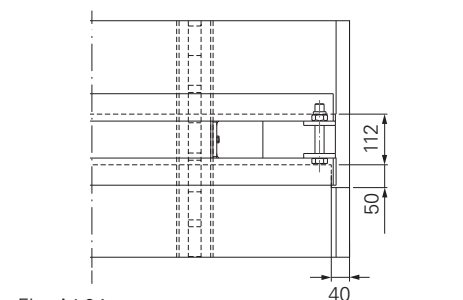

Fig. A1.04c
4. From Point 4 onwards identical with VT 20, see above. In addition: remove planking on the toe board fixation 40 x 50 mm. (Fig. A1.04c)